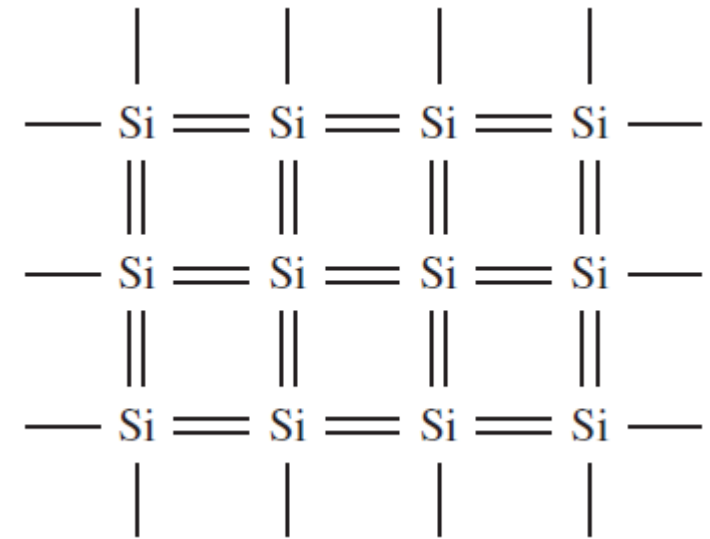

Figure 1.2
- A two-dimensional representation of a silicon single crystal is shown in Figure 1.2, for  $T = 0K$ , where: